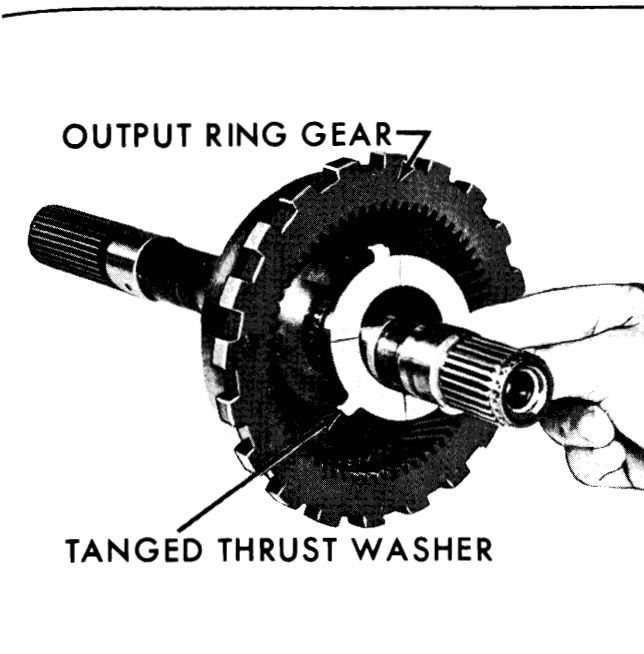

Fig. 7-49—Removing Output Ring Gear Tanged Thrust Washer
18. Remove reaction carrier to output ring gear tanged (front) thrust washer. (Fig. 7-49)